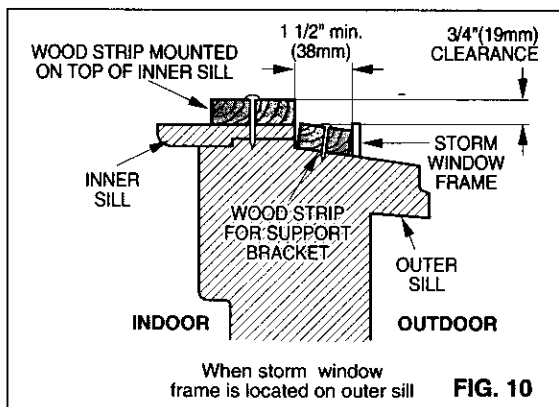

FIG. 10
- If storm window presents interference, fasten a 2" (51mm) wide wood strip to the inner window sill across the full width of the sill. The wood strip should be thick enough to raise the height of the window sill so that the unit can be installed without interference from the storm window frame. See FIG. 10. Top of wood strip should be approximately 3/4" (19mm) higher than the storm window frame to help condensation to drain properly to the outside.
- Install a second wood strip (approximately 6" (152mm) long by 1 1/2" (38mm) wide and same thickness as first strip) in the center of the outer sill flush against the back of the inner sill. (FIG. 10)